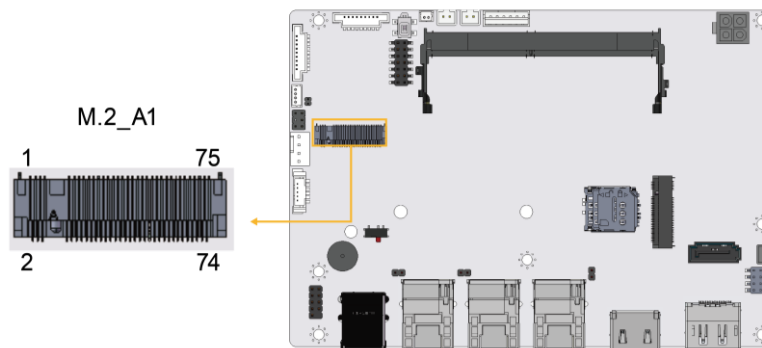

Figure 3-31: M.2 A-key Slot Location
- CN Location:** See **Figure 3-31**